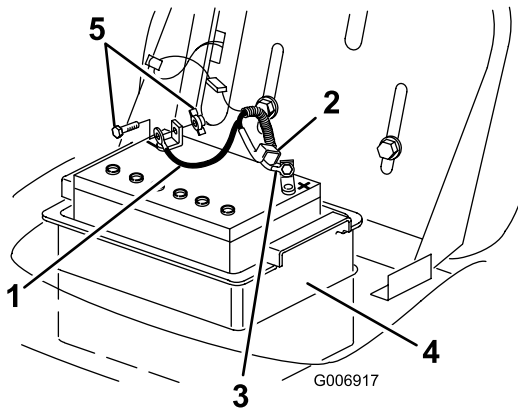

Figure 26
4. Disconnect the negative (black) ground cable from the battery post (Figure 26).
- Slide the rubber cover up the positive (red) cable. Disconnect the positive (red) cable from the battery post (Figure 26).
- Remove the battery box and battery from the chassis (Figure 26).
- Put the battery into the battery box and install it into the chassis (Figure 26).
- Using the bolt and wing nut, connect the positive (red) cable to the positive (+) battery post (Figure 26).
- Using the bolt and the wing nut, connect the negative (black) cable to the negative (-) battery post (Figure 26).